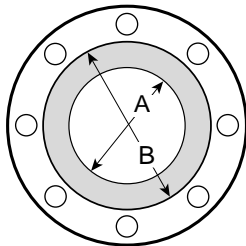

Figure 1
2. The gray area of the mating face (Figure 1) must be free from gouges, undulations, or deformities of any type for proper sealing.